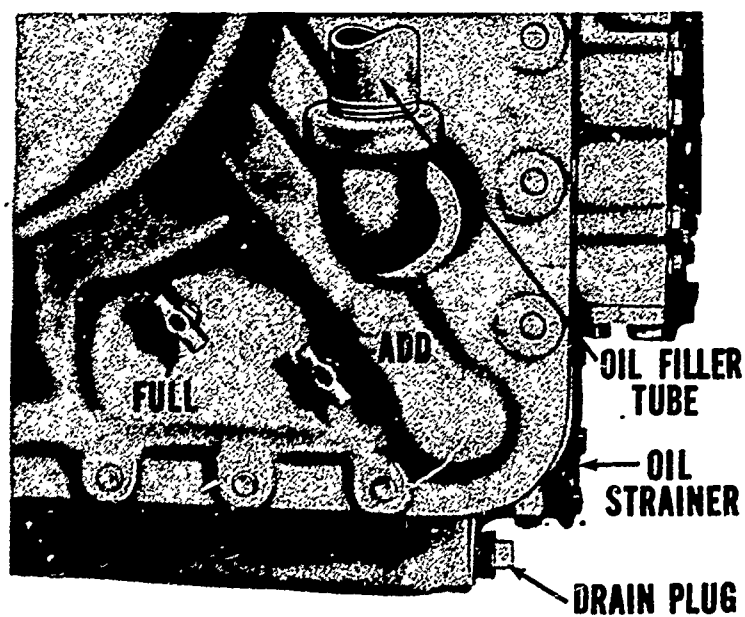

Fig. 5 Oil level check points
COLD OIL LEVEL CHECK -- The cold check (engine not running) is done only to see if there is sufficient oil in the transmission hydraulic system to start the engine. This oil check is especially important if the vehicle has been standing idle for a long period. To check oil level, open the "FULL" level petcock and add transmission fluid until it comes out the petcock. Close the petcock securely; see Figure 5.
To make the hot oil level check, check the level at the rear cover of the straight through models; see Figure 5. Oil level must be maintained between the two oil level petcocks. Approximately 1 1/2 gallons are required to bring the oil level from the lower petcock to the upper petcock.
1. Remove the drain plug from the right side of the oil pan; see Figure 5.